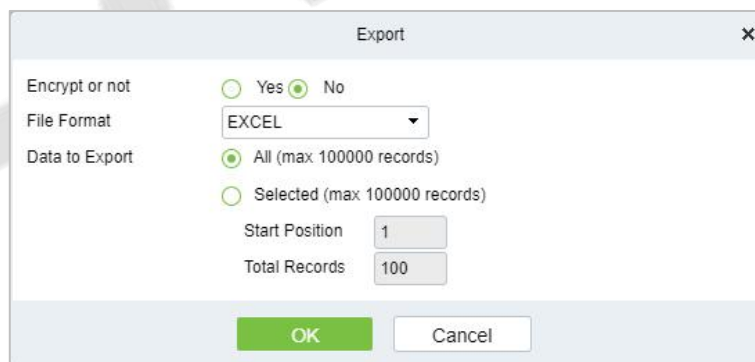

Figure 12-45 Report Export Interface
Step 3: In the full record interface, click **Export**, enter the user password in the pop-up security verification, and click **OK**. Select whether to encrypt and export the file format, and Click **OK**, as shown in Figure 12-45.